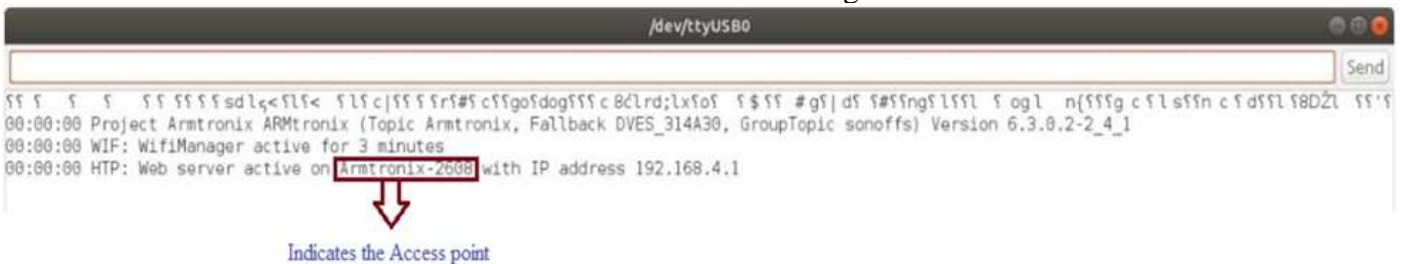

Figure 9: Access point name
11. After connecting, open any browser and enter the IP address which is displayed on your Smartphone it opens the Web Server as shown in the Figure 9 below, then enter the SSID and Password and you can give the Host name of your choice (just for your reference) then click on SAVE button.